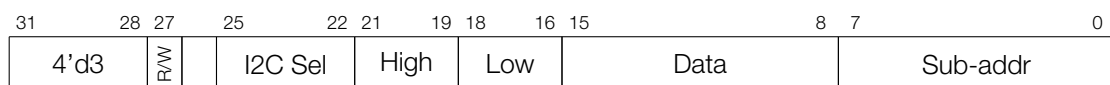

Figure 167: Instruction Type – I2C
**Operand Description** - see Figure 167